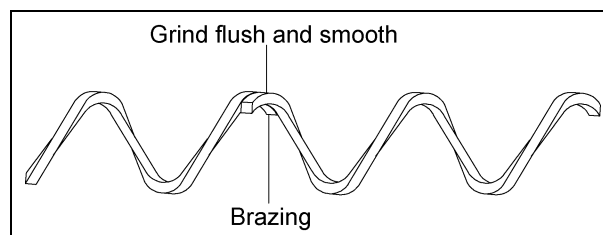

Figure 5X Brazing the Auger
The auger should be handled with great care. Do not install the auger until the kinks have been removed. The kink may be removed by straightening the auger. A kink may cause extensive wear on the system and premature part replacement. In the event that the kink cannot be removed by straightening, the kink must be cut-out and the auger welded. (See brazing recommendations in Figure 5X on Page 29.)
2. Position the auger in an angle iron and clasp it securely to align it for brazing. (See Figure 5X.)